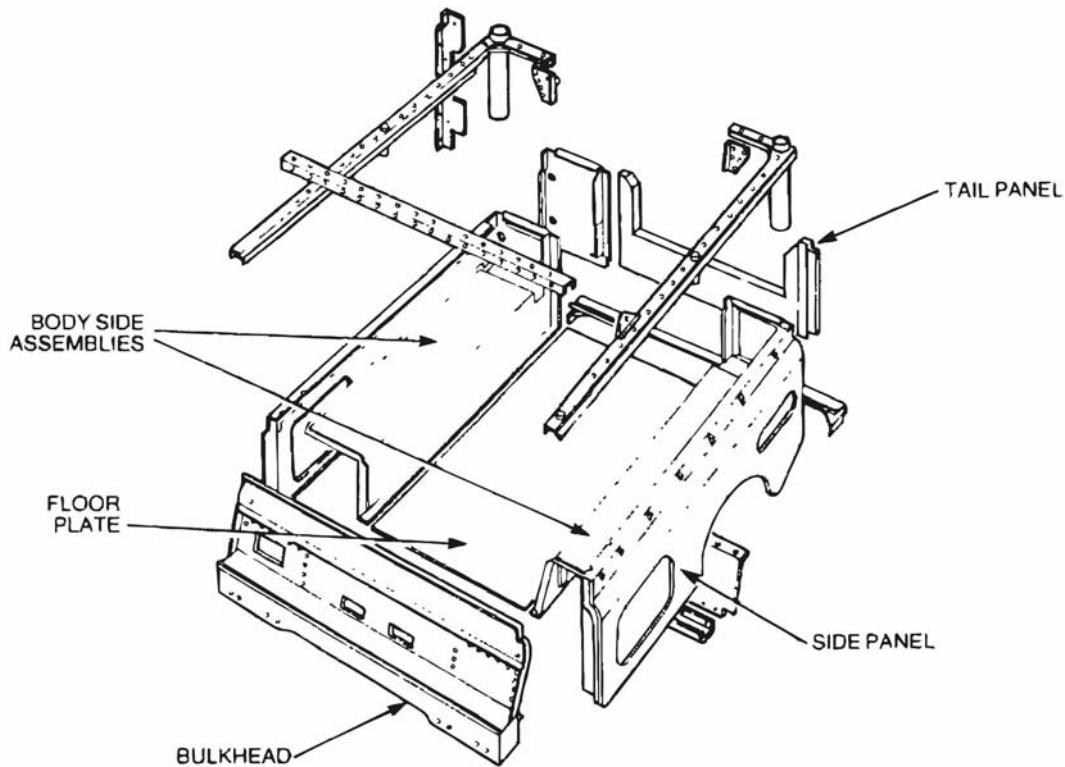

Figure 23 Rear Body – Exploded View
58. **Lower Body.** The rear body (Figure 23) consists of eight pressed aluminium panels. The panels are riveted together to form the rear lower body. A galvanized steel capping is riveted to the top of the lower panels, strengthening the lower panels and providing mounting positions for the roll cage. The tailboard is a fixed panel which has been cut down for ease of entry into the cargo area. The rear body is secured to the chassis by four mounting brackets and is also secured by bolts to the rear crossmember.